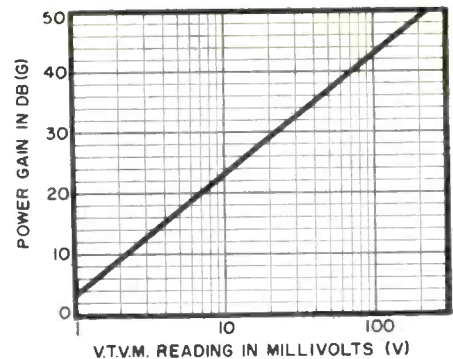

Fig. 9. Graph of Eq. (6) used for obtaining equivalent power gain in db.
R_o should be adjusted for the maximum v.t.v.m. peak reading, and Fig. 9 referred to for equivalent power gain in db.
The graph in Fig. 9 was made from Eq. (6).